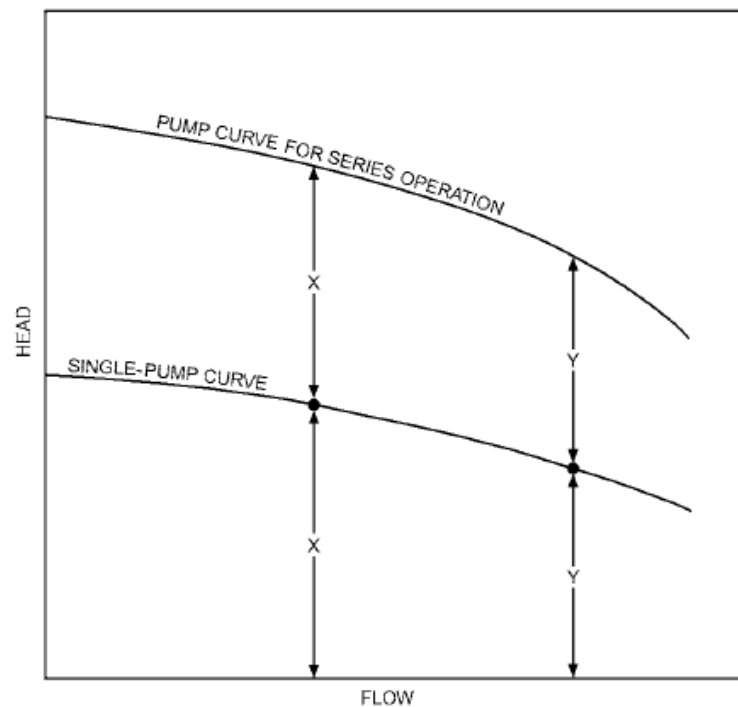

Figure 33 Pump Curve Construction for Series Operation
- **When pumps are applied in series**, each pump operates at the same flow rate and provides its share of the total pressure at that flow (Figure 33).